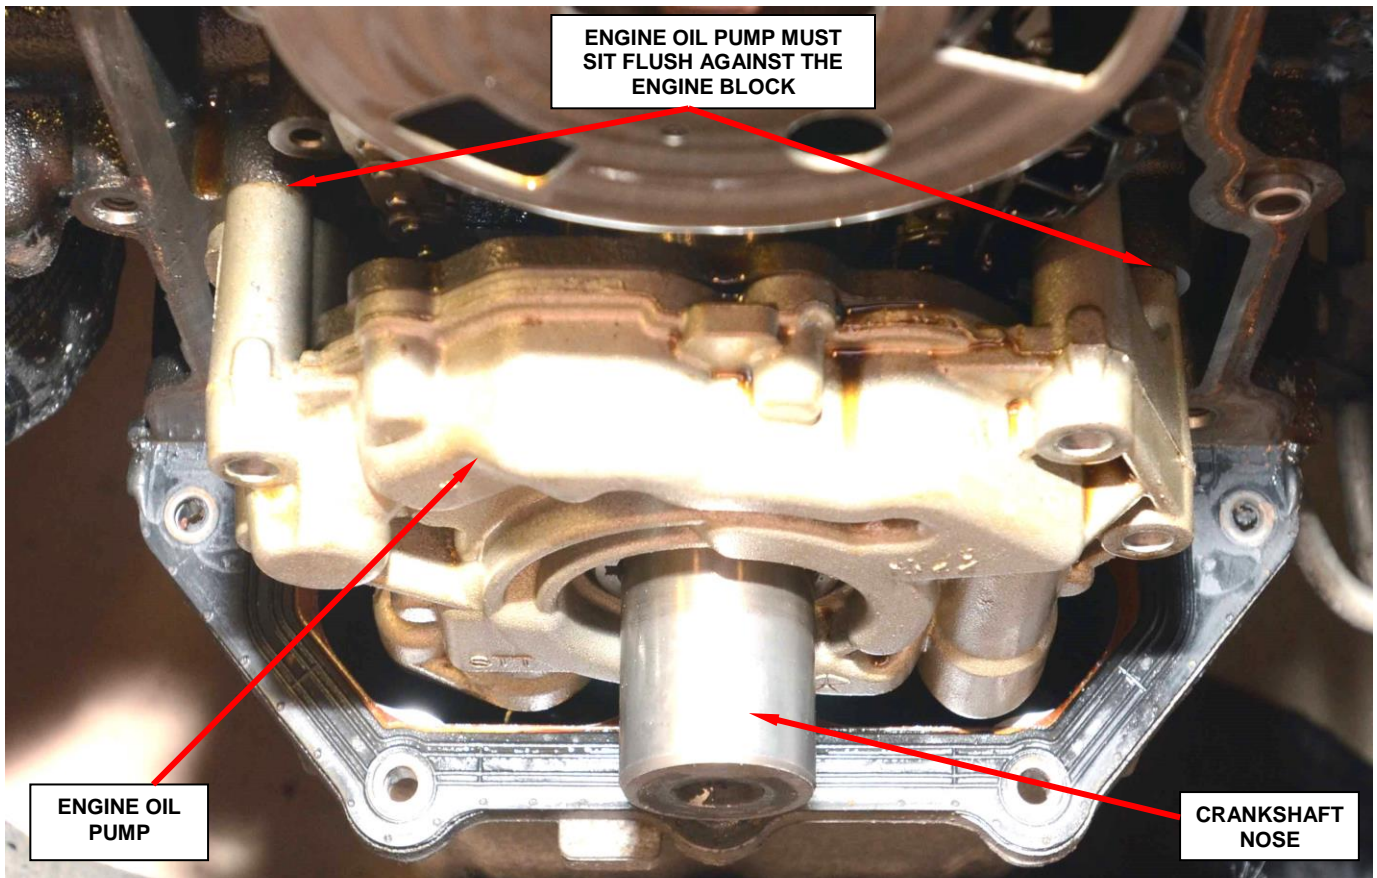

Figure 13 – Install the Oil Pump
56. Install the engine oil pump onto the crankshaft (Figure 13).
61. Verify that the oil pump body is flush to the engine block and install the four oil pump retaining bolts finger tight (Figure 13).